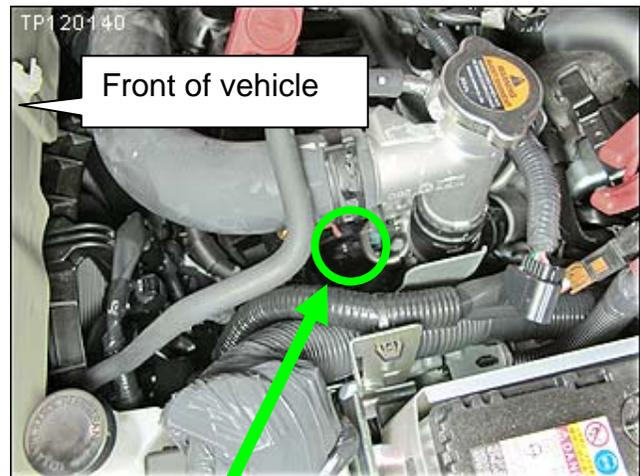

Figure 42
b. Torque one bolt (shown in Figure 42 and 43) on driver side.